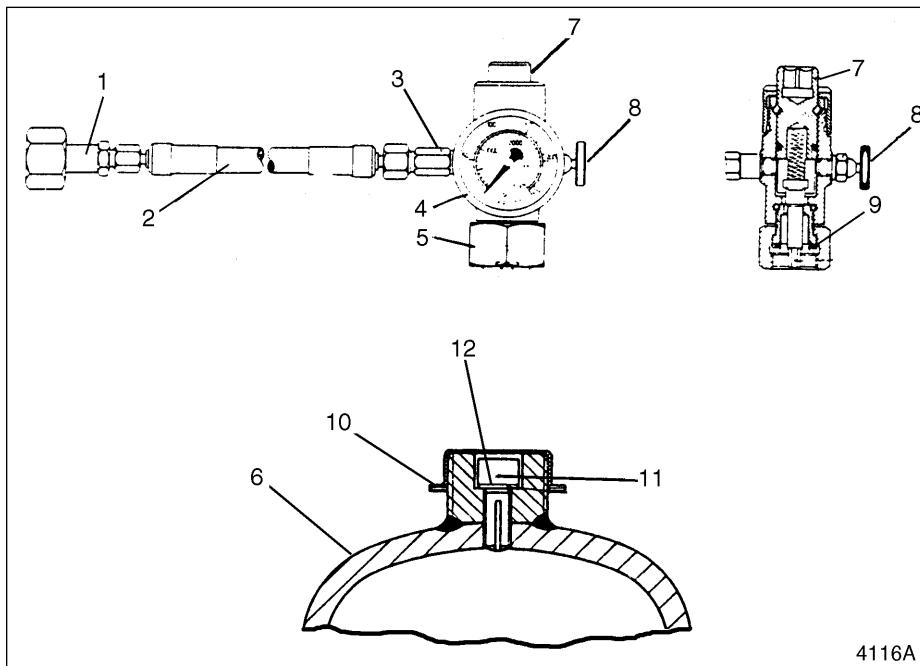

Figure 3
1. Remove the protective cap (10, Figure 3) and the protective plug (11) from the accumulator (6).
2. Clean area around seal ring (12).
3. Thread the sealing nut (5, Figure 3) of adapter (7) onto accumulator. Tighten adapter securely. Close nitrogen bleeder valve (8).
4. Thread nitrogen cylinder fittings (1, Figure 3) onto nitrogen cylinder.
6. Slowly open nitrogen bleeder valve (8). Open valve (8) until gauge (4) reading is equal to primary pressure. Close bleeder valve.
7. Unscrew adapter (7, Figure 3) from accumulator (6).
8. Thread protective plug (11, Figure 3) into accumulator. Tighten to 3 kg•m (22 ft lb).
9. Check for nitrogen leaks around protective plug (11, Figure 3). Coat area around protective plug (11) with soapy water. If soap bubbles form, retighten protective plug (11).
10. Install protective cap (10, Figure 3) on accumulator.